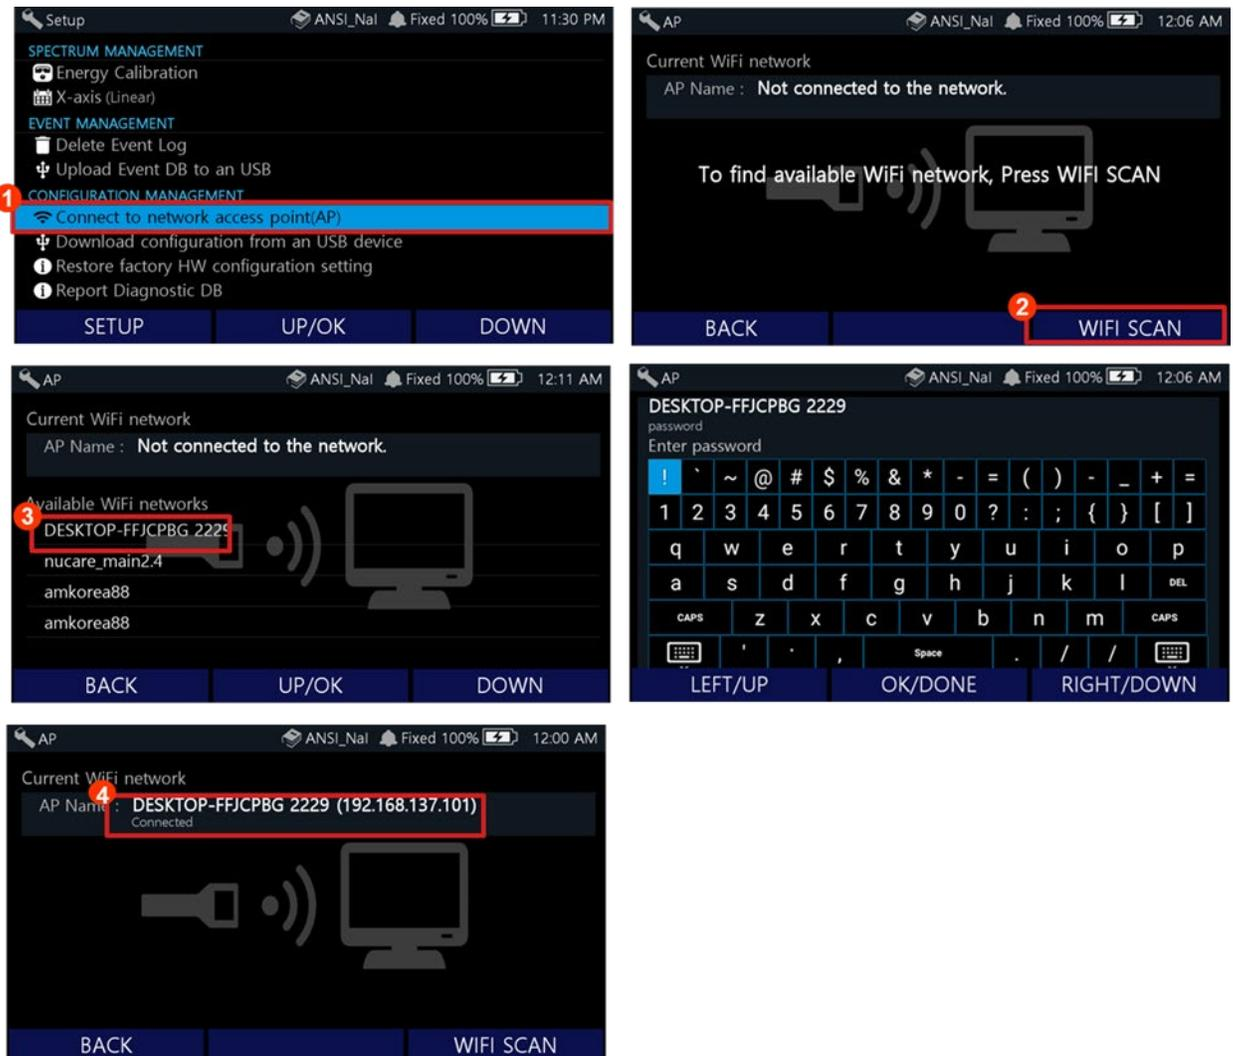

Figure 6.3.13. Wifi Scan and AP Setup
1. Select ‘Connect to network access point (AP)’
2. Press “WIFI SCAN” button. Available WiFi access points are listed as shown in figure 6.3.13.